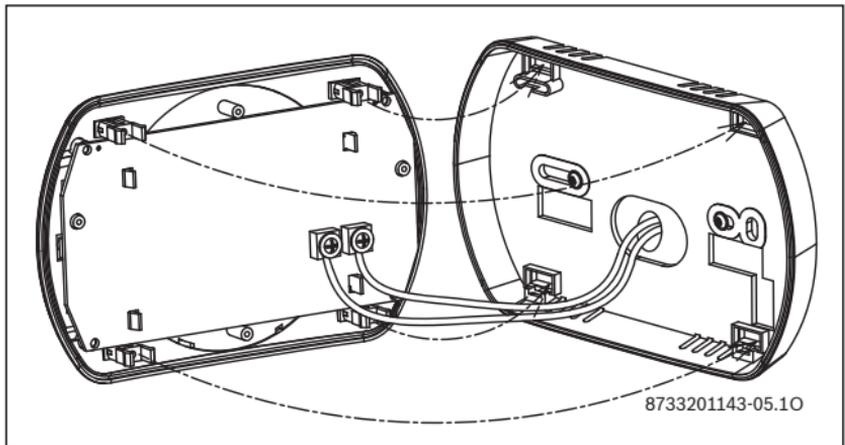

Fig. 5
- ▶ Connect wire to wire holder of PCB, and align four positioning buckles with four square holes, then fix product onto the back cover, as shown in Fig. 5.